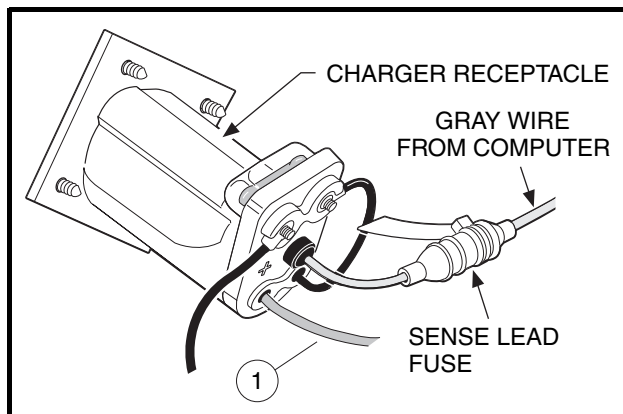

Figure 6-11 Receptacle Wire Connections (all vehicles except Precedent)
- 3.2. Make sure the two nuts that secure the two 10-gauge black wires to the receptacle fuse assembly are tight (**Figure 6-11, Page 6-16**).